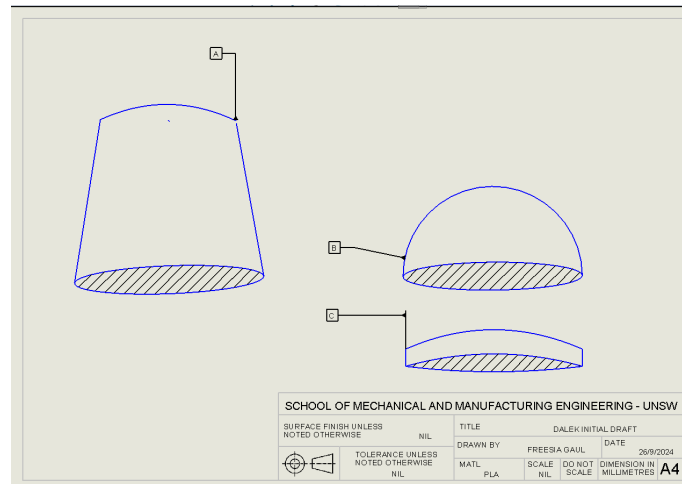

Figure 1: A High-Level Decomposition of the Dalek
The best designs are often taken from nature or the everyday because they're intuitive and simple. Initial thoughts involving the Dalek's movement centre around the idea of a lazy-susan with a motor underneath. I predict that the components that we get will be low-end, and we will have a tight budget (if any.) From experience, the motor should have as little weight on it as possible or else it will move slowly. I think that immediate design approaches would be to separate the dead-weight from the essentials - and to decide on a material for the shell and rotating platform. Figure 1 shows a rough draft of this idea, where A is dead weight, B is the head (which is dead-weight and finding a way to not have it connect to the rotating disk (C) with the motor would be ideal.